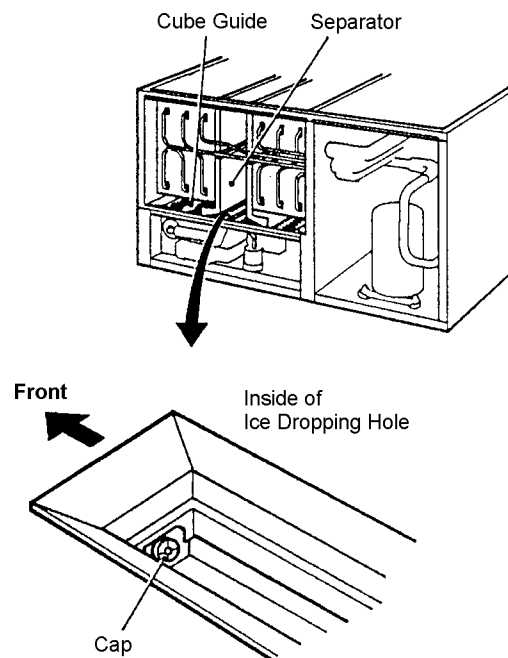

Fig. 4
- 3) Drain the Water Tank by removing the Insulation Panel and the Cap located on the front bottom part of the Ice Dropping Hole. See Fig. 4.
5) Drain the Water Tank by removing the Cap located on the front bottom part of the Ice Dropping Hole. See Fig. 4.
- 27) Drain the Water Tank by removing the Cap located on the front bottom part of the Ice Dropping Hole. See Fig. 4.